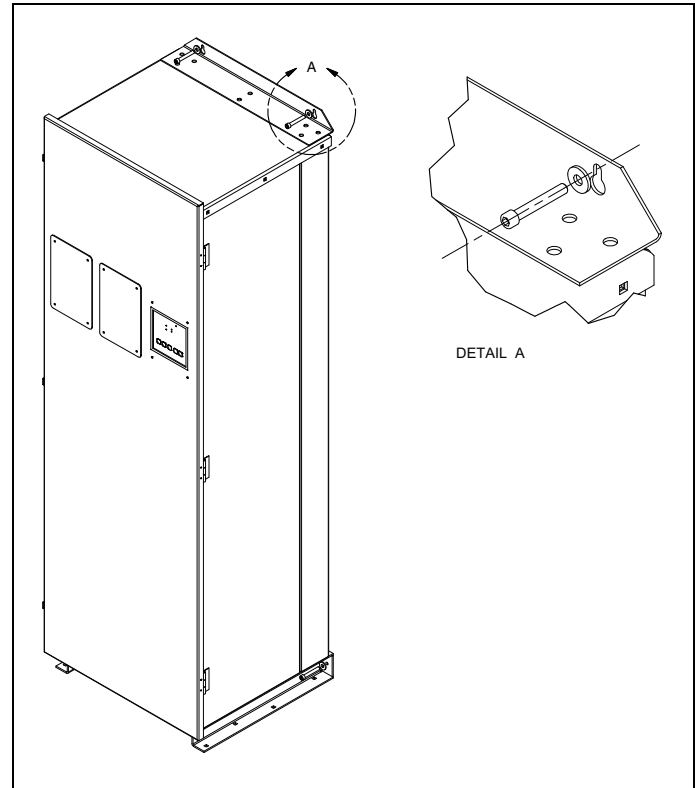

Figure 22. Mounting Details.
Step 1: Mount the ATS on a flat rigid surface (Figure 22). Shim if necessary.
For 4 pole transfer switches, connect the load cables (TN), Source 1 or utility supply (NN), and Source 2 or generator supply (EN). Refer to Figure 22 for the location of all parts discussed in this document.